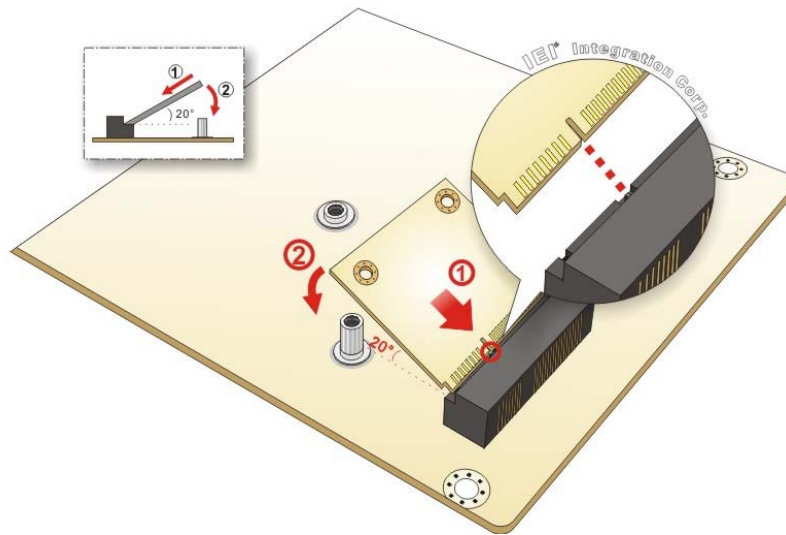

Figure 4-10: Inserting the Half-size PCIe Mini Card into the Slot at an Angle
Step 5: Insert into the socket at an angle. Line up the notch on the card with the notch on the slot. Slide the PCIe Mini card into the slot at an angle of about 20° (Figure 4-10).